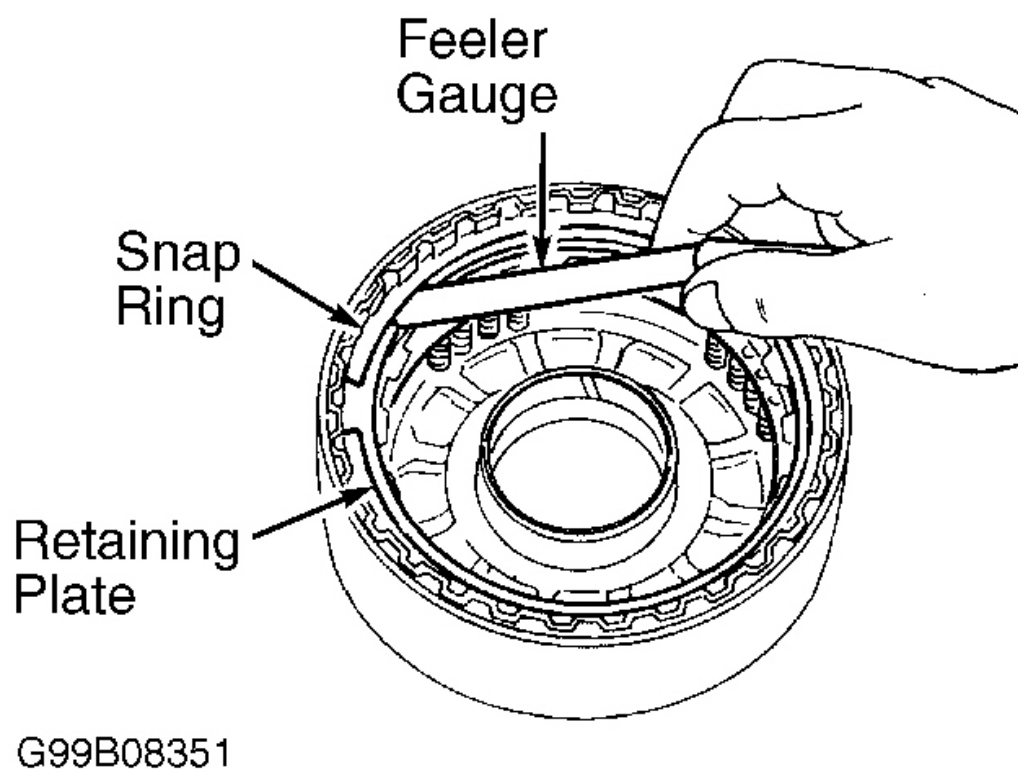

Fig. 30: Measuring Clutch Pack Clearance (Reverse Clutch Shown; Other Clutches Are Similar)
2. Measure clearance between retaining plate and snap ring. See **Fig. 30**. Replace retaining plate if specified clearance is not .020-.031" (.50-.80 mm), with service limit of .047" (1.20 mm). Reverse clutch retaining plates are available in thicknesses ranging from .260" (6.60 mm) to .307" (7.80 mm) in .008" (.20 mm) increments. Install different thickness retaining plate (if necessary) and recheck clearance.
3. Measure clearance between retaining plate and snap ring. See **Fig. 30**. Replace retaining plate if specified
2. Install overrun clutch drive plates, driven plates, retaining plate, dish plate and snap ring. Measure clearance between retaining plate and snap ring. See **Fig. 30**. Specified clearance for overrun clutch is .028-.043" (.70-1.10 mm), with service limit of .067" (1.70 mm). Overrun clutch retaining plates are available in thicknesses ranging from .118" (3.00 mm) to .150" (3.80 mm) in .008" (.20 mm) increments.
3. Install forward clutch drive plates, driven plates, retaining plate, dish plate and snap ring. Measure clearance between retaining plate and snap ring. See **Fig. 30**. Specified clearance for forward clutch is .018-.033" (.45-.85 mm), with service limit of .073" (1.85 mm). Forward clutch retaining plates are available in thicknesses ranging from .126" (3.20 mm) to .150" (3.80 mm) in .008" (.20 mm) increments.